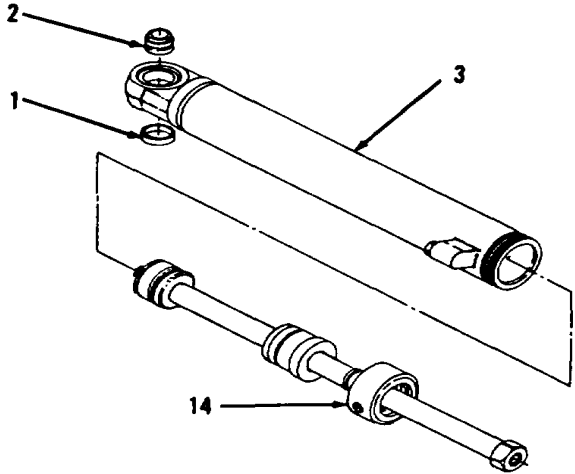
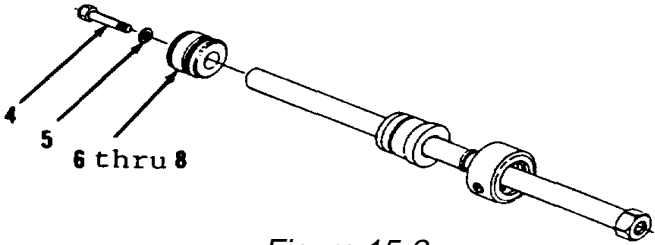
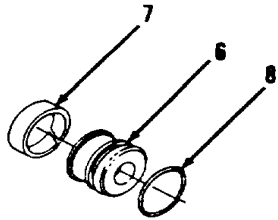
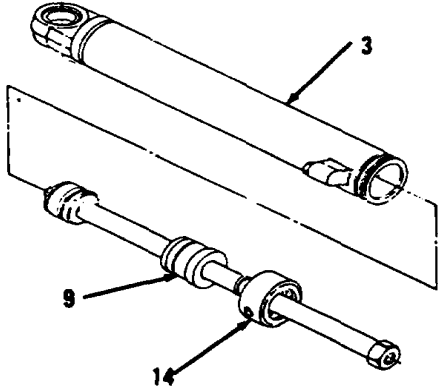

Figure 15-1.
Figure 15-2.
Figure 15-3.
Figure 15-8.
1. Remove two rings (1) and bearing (2, Figure 15-1).
2. Using suitable chain wrench, loosen crown (14).
3. Remove cylinder (3).
4. Remove bolt (4) and washer (5, Figure 15-2).
5. Remove items 6 thru 8 as an assembly.
6. Remove ring (7) and seal assembly (8) from piston (6, Figure 15-3). Discard seal assembly (8).
- 7. Install items 8 thru 6 as an assembly (Figure 15-2).
- 8. Apply thread lubricant to threads of bolt (4).
- 9. Install bolt (4) and washer (5).
- 10. Lubricate outside of head (9), inside of crown (14) and inside of cylinder (3, Figure 15-8) thoroughly with hydraulic fluid.